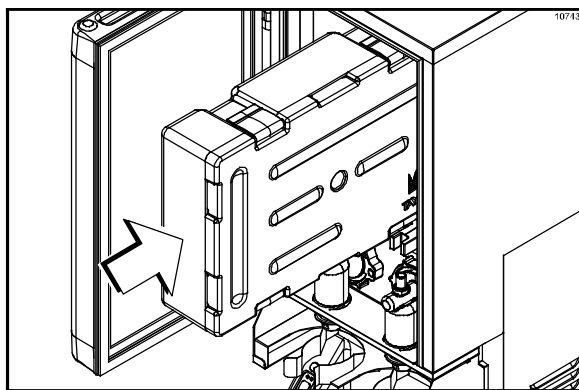

Figure 21
7. Slide the concentrate container into the dispenser cabinet. Make sure the tube is facing out. (See Figure 21.)